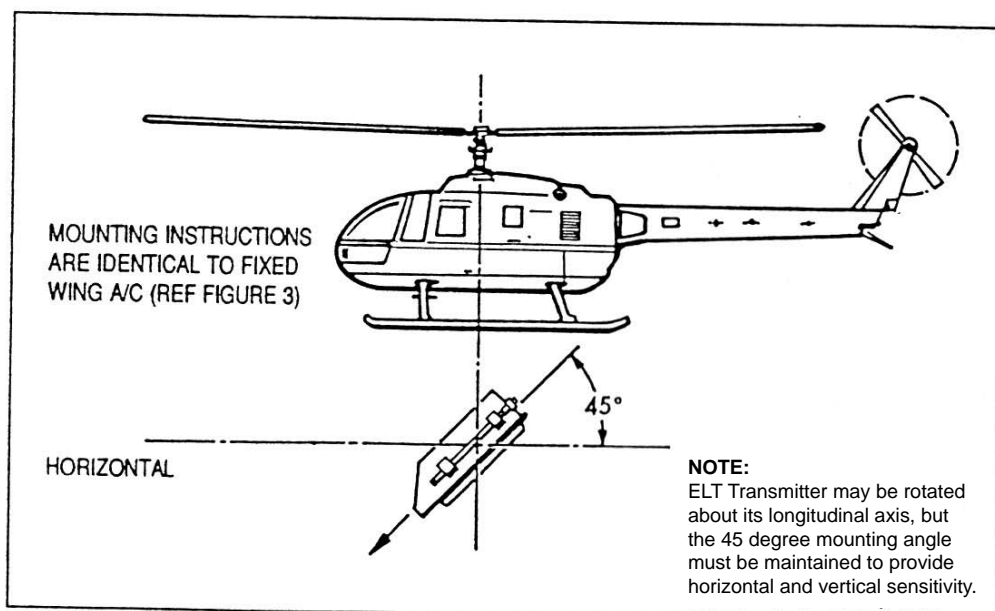

FIGURE 4. MOUNTING POINTER ELT IN ROTARY-WING AIRCRAFT
- 3.4-1 All mounting instructions are identical to Fixed-Wing with the exception of the mounting angle as shown in Figure 4.